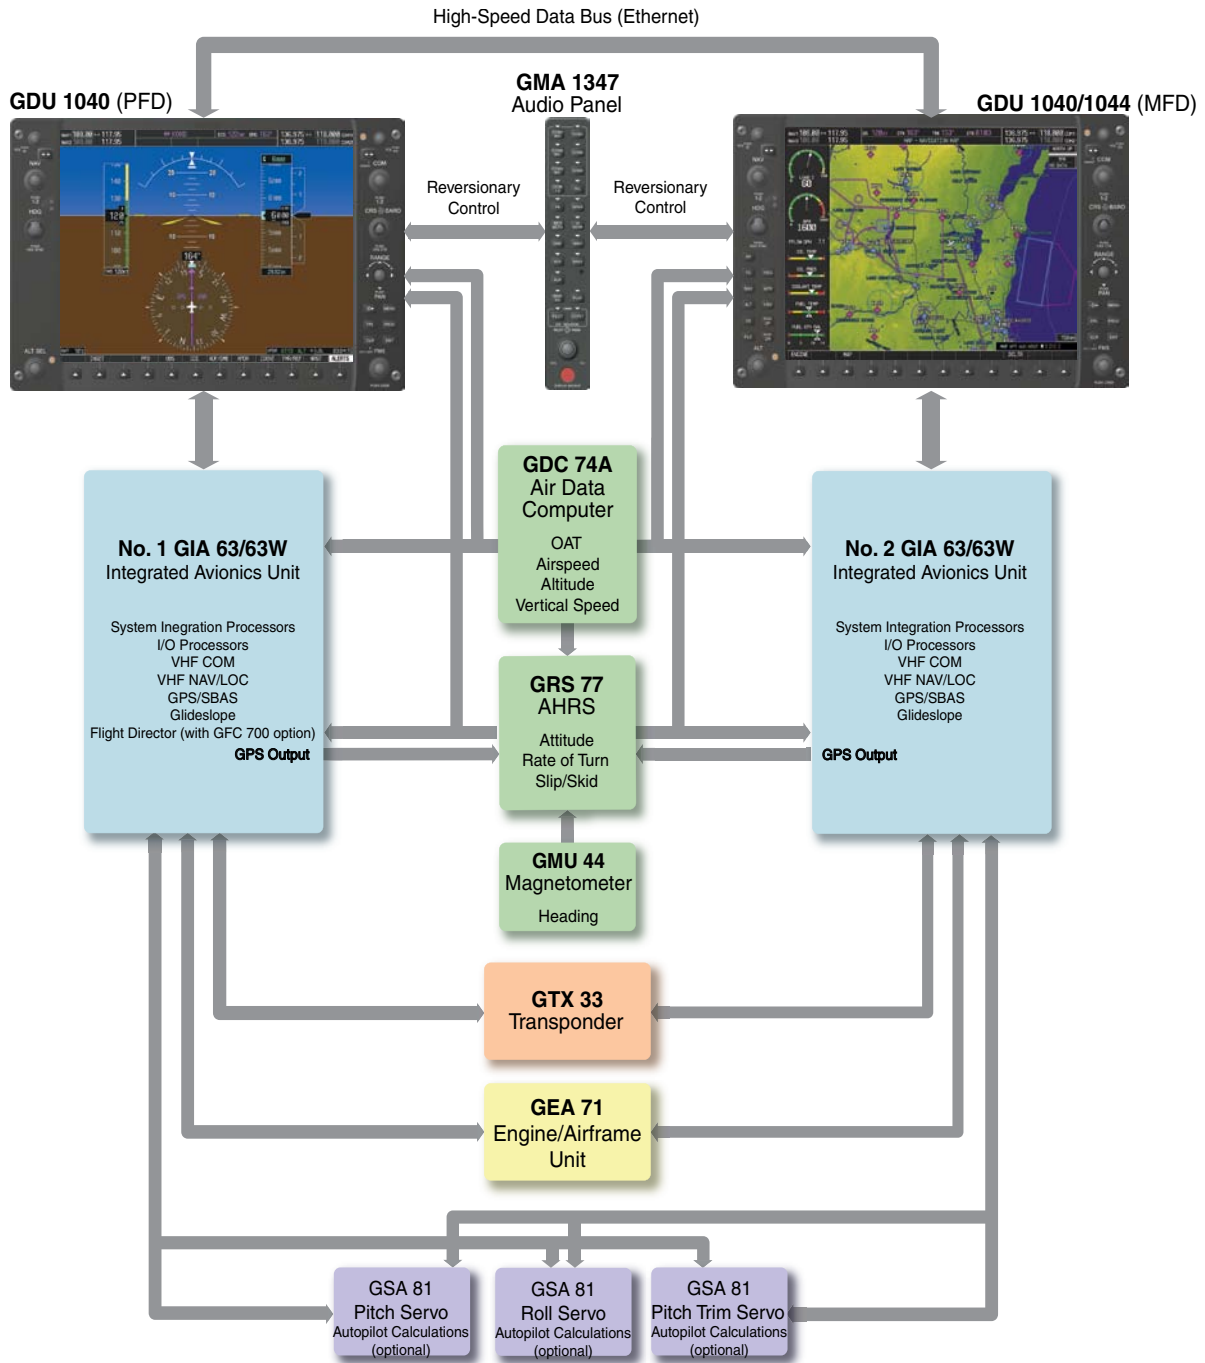
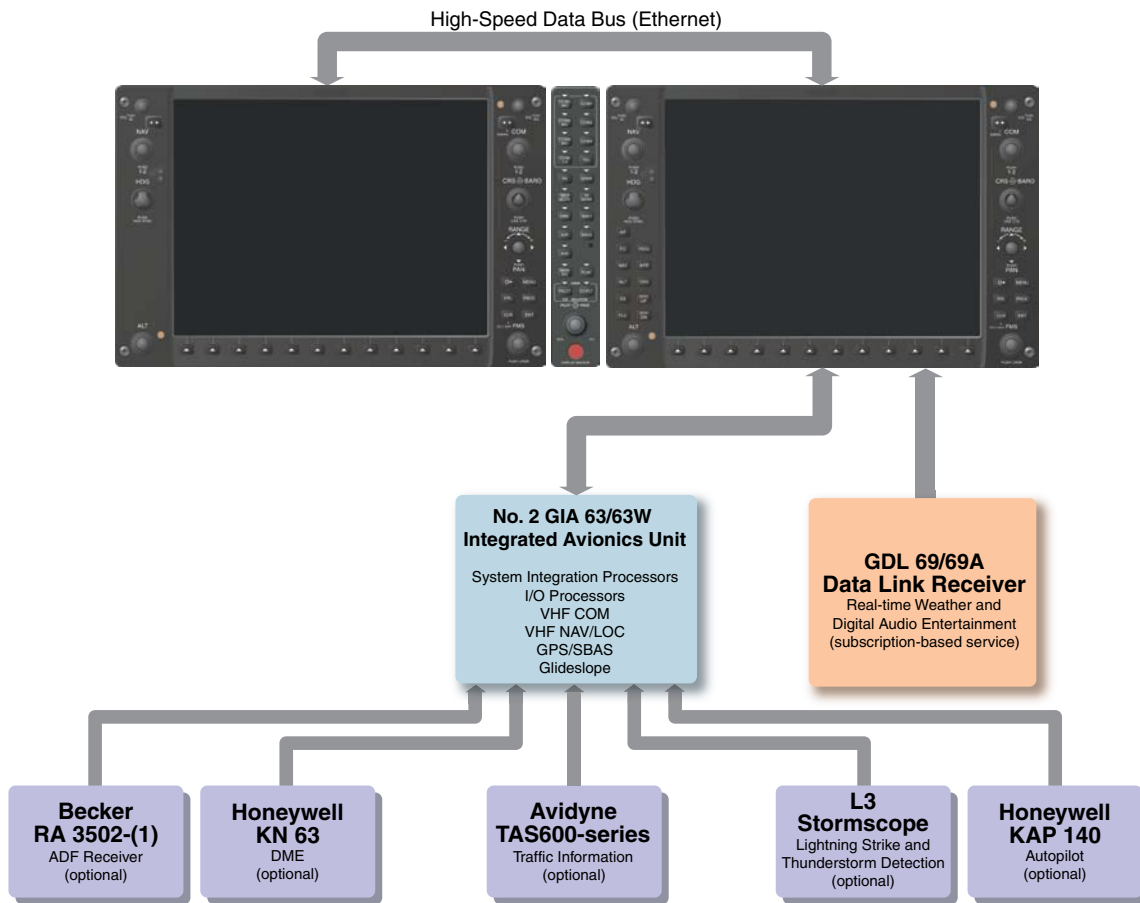

Figure 1-1 G1000 System Block Diagram
Figure 1-2 G1000 With Optional/Additional Interfaces
Figure 1-1 shows interactions between the LRUs. Additional/optional equipment are shown in Figure 1-2.
**NOTE:** For information on additional equipment shown in Figure 1-2, consult the applicable optional interface user's guide. This document assumes that the reader is already familiar with the operation of this additional equipment.
The displays are connected together via a single Ethernet bus for high-speed communication. As shown in Figure 1-1, each IAU is connected to the on-side display. This allows the units to share information, enabling true system integration
If a display fails, the appropriate IAU-display Ethernet interface is cut off. Thus, the IAU can no longer communicate with the remaining display (refer to Figure 1-1), and the NAV and COM functions provided to the failed display by the IAU are flagged as invalid on the remaining display. The system reverts to backup paths for the AHRS, ADC, Engine/Airframe Unit, and Transponder, as required. The change to backup paths is completely automated for all LRUs and no pilot action is required.